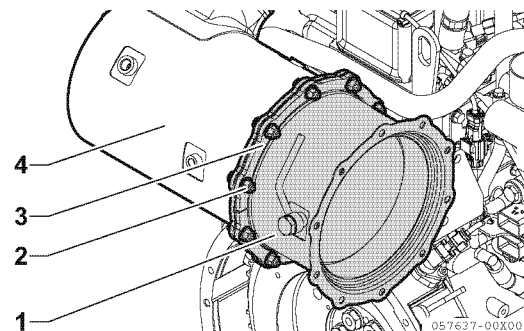

Figure 13-15
5. Removal of the soot filter (SF)
- Remove the M8 bolts and flange nuts (Figure 13-15, (2)) (8 or 10 of each) that fix the SF (Figure 13-15, (1)).
- Remove the stiffeners (4 pcs.) (Figure 13-15, (3)), and remove the SF and gasket from the DOC (Figure 13-15, (4)). Put marks on the stiffener before removing to identify the position and angle so that it can be easily reinstalled.